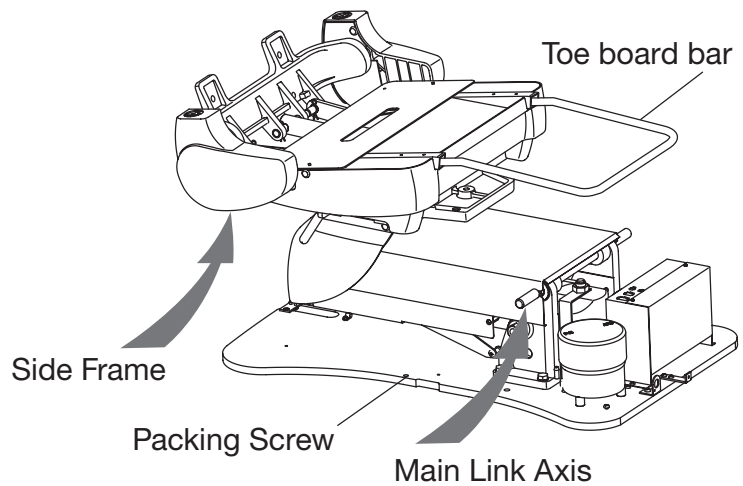

Figure 2
- 2) Using a 10mm socket, loosen and remove two packing screws holding the chair base into pallet. (See Figure 2.)
Be sure to lift chair under the side frame and main link axis as shown in Figure 2.